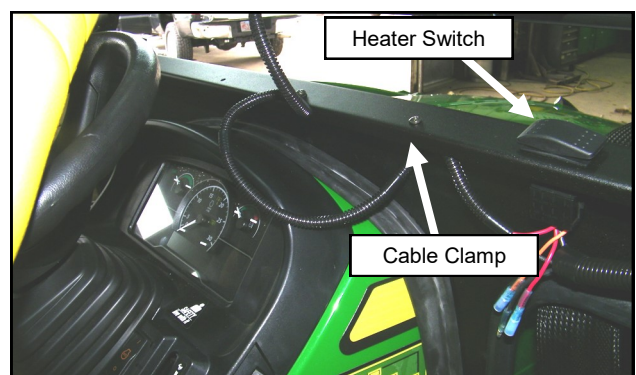

Fig. 1.3 (Secure Wire Harness)
- 1.3 See fig. 1.3. Push the switch connector up through the rectangular hole in the cowl, connect to the switch and snap in the heater switch. The "off" position for this switch is in the middle, with low speed one way and high speed the other way. The switch may be installed in either direction, and can be removed and rotated 180° later if desired.